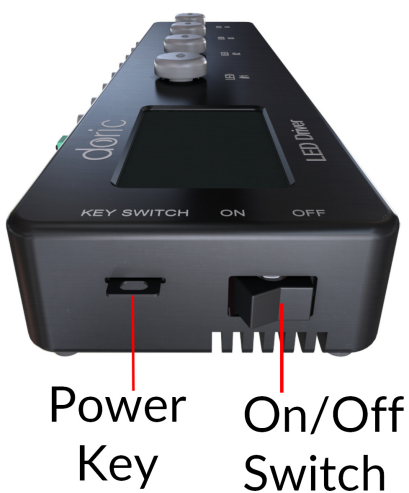

Figure 1.9: Side view of a 4-channel LED Driver
- The **On/Off switch** (Fig. 1.9) turns on/off the driver.